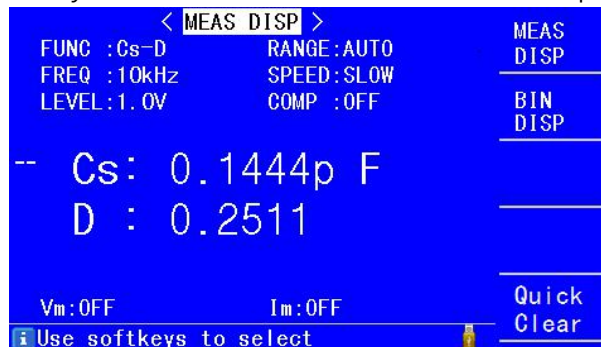

Figure 6-1 Measurement display page
1. Press the "MEAS" button on the panel to enter the < MEAS DISP > page (as shown in Figure 6-1), and press "BIN DISP " softkey to enter < BIN DISP > page (as shown in Figure 6-2).